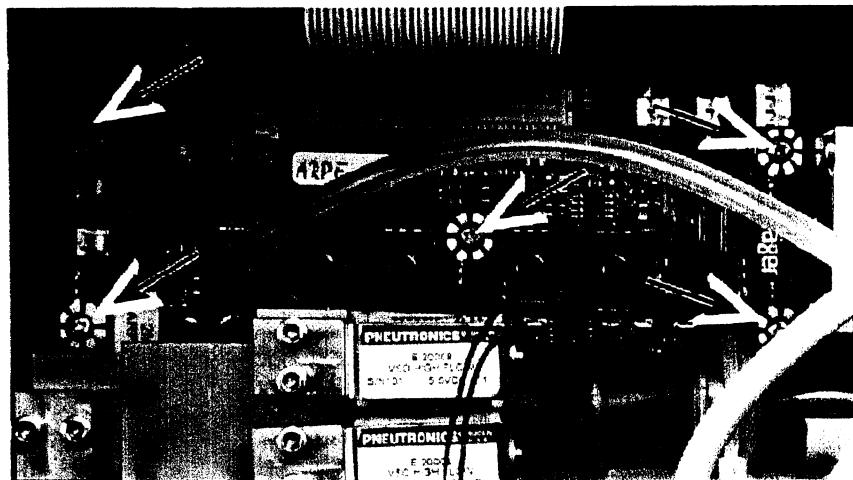

Fig. 5 View of sensor PCB
4. Remove the sensor PCB fixing screws Fig. 5.